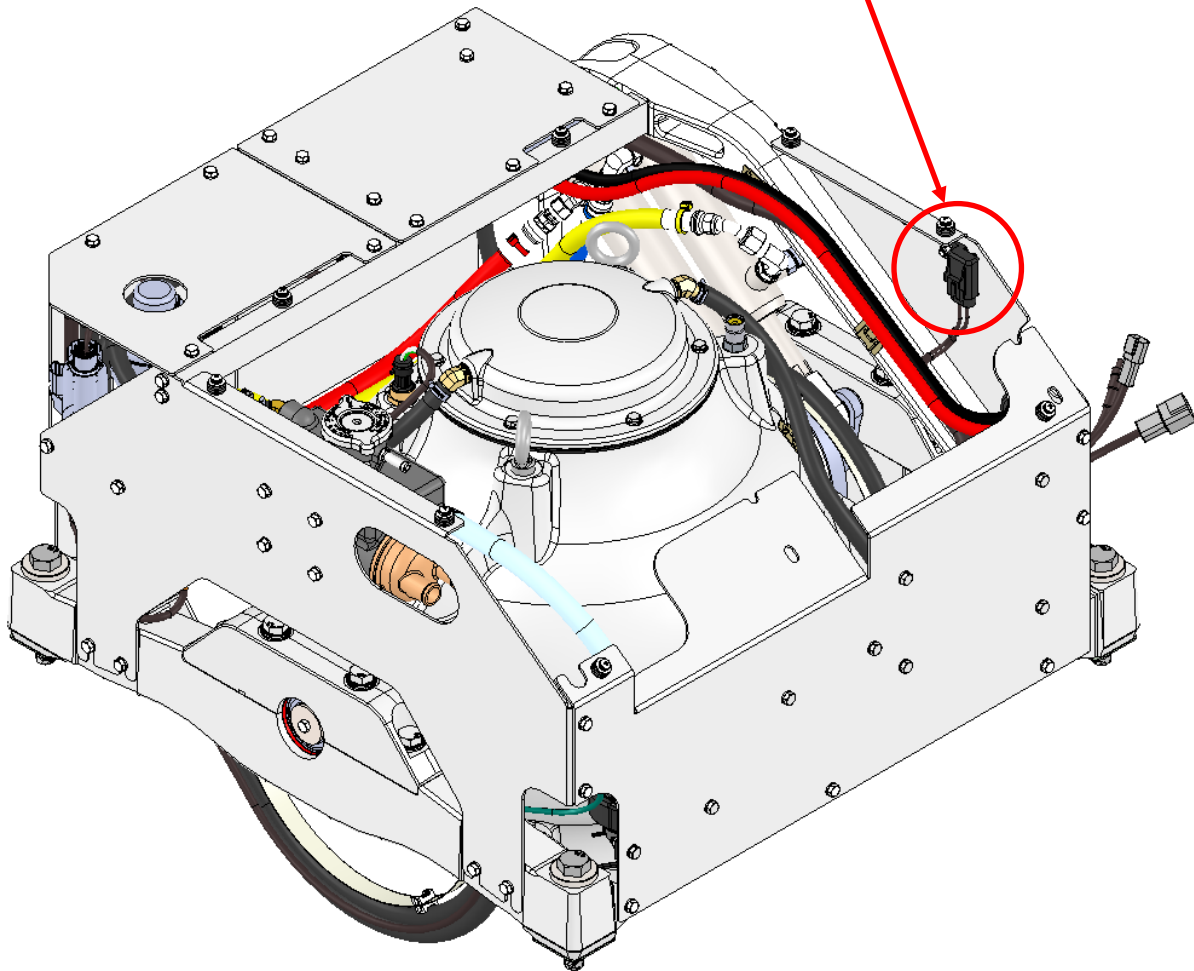

FIGURE 10 – SEAKEEPER INCLUDED SEAWATER 3A FUSE LOCATION
- 1. EATON BUSSMANN ATC-3 or equivalent is contained in a watertight fuse holder shown in Figure 10